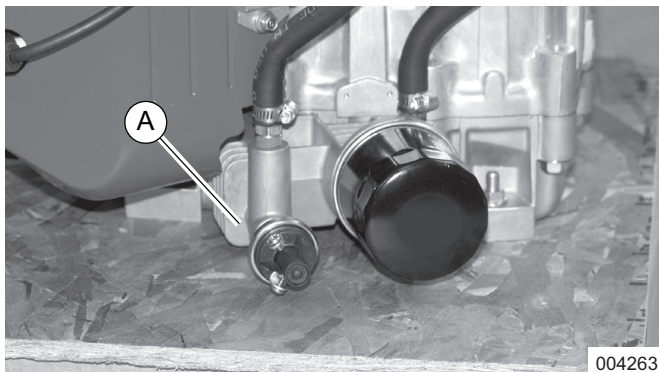

Figure 9-1. Low Oil Pressure Switch
See Figure 9-1. The engine is usually equipped with a normally open type, low oil pressure switch (A) which closes the circuit between the terminals when oil pressure drops below 8 psi (55 kPa). If one terminal is connected to the ignition ground wire and the other terminal is connected to ground, the engine will shut down on low oil pressure. The switch can also be connected to an alarm or light to indicate low oil pressure, instead of shutting down the engine.